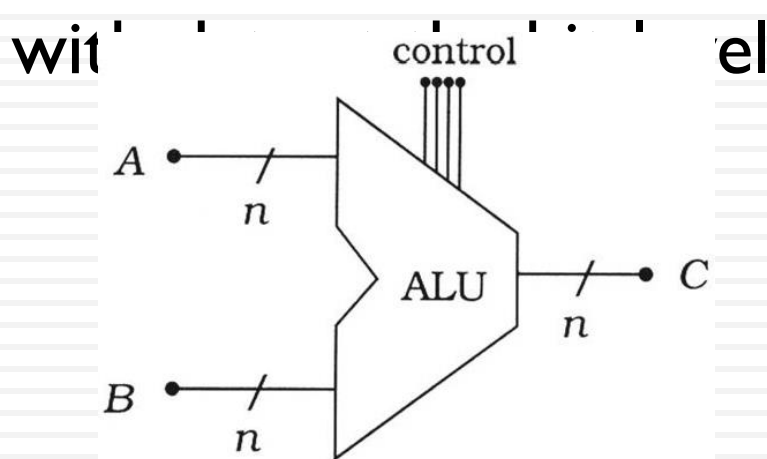

Figure 15.52 An n-bit ALU
- For example, an ALU circuit design (Fig. 15.52)